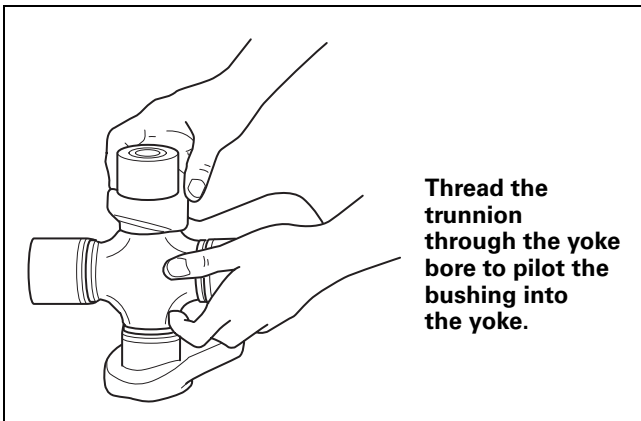

Figure 8.33
6. Position the second bushing onto the trunnion by threading the cross through the yoke bore as shown. Figure 8.33.